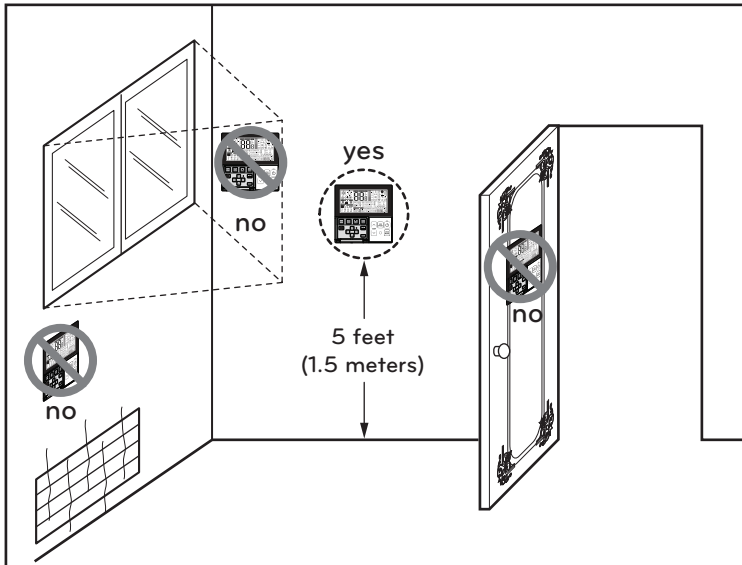

Fig.1 Typical locations for remote controller
- This remote controller is equipped with a seven segment LED display. For proper display of the remote controller LED's, the remote controller should be installed properly as shown in Fig.1. (The standard height is 1.2~1.5 m from floor level.)
- For the units with capacity more than 48 kBTu/h, the installation piping is connectable in four directions.(refer to figure 1)